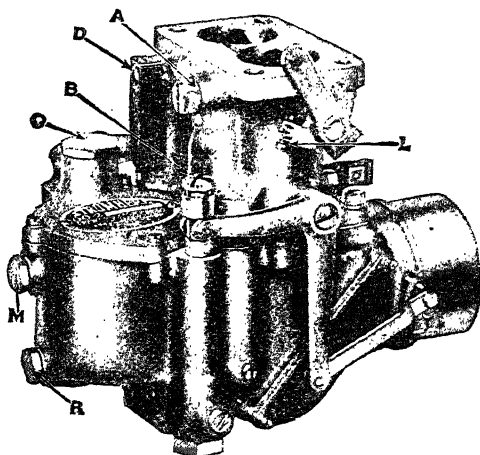

Fig. 60. Stromberg Twin-Type Carburetor—
Model "OO" is illustrated in Fig. 60. The instructions as given for the adjustment of dual carburetors, Model "UU," are also applicable to this carburetor.
*Float Level Adjustment.* The gasoline level in the float chamber should stand, with the engine idle, even with the bottom of the level sight hole *M*, Figs. 60 and 61. As the engine is raced to high speed, the level will naturally fall. If the carburetor floods continuously, remove the strainer plug *O*, clean the strainer, then replace and flush out the float chamber by turning on gasoline full with drain plug *R* removed. If flooding continues after this, take off the top of the float chamber and float mechanism with it and inspect the needle valve point and needle valve seat. Tapping the needle valve into the seat with a screwdriver handle, while rotating it in several positions, will sometimes give good results. In case the needle valve point shows wear, it should be replaced.